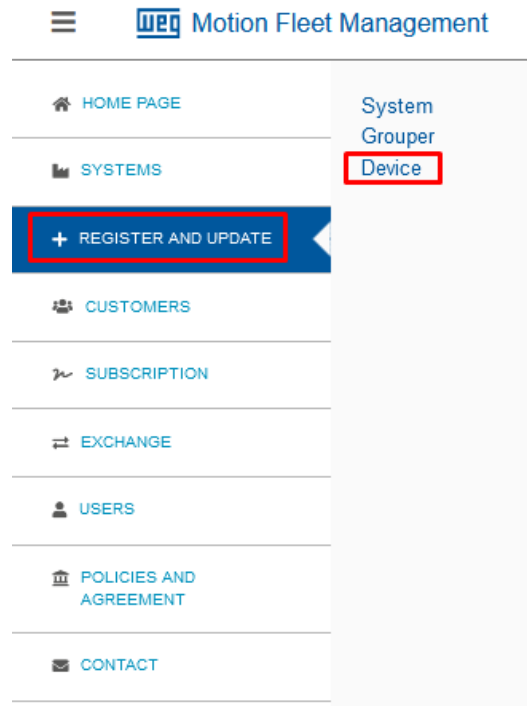

Figure 3.3: Registering a new device
- Click on the “Device” option, as shown in Figure 3.3.